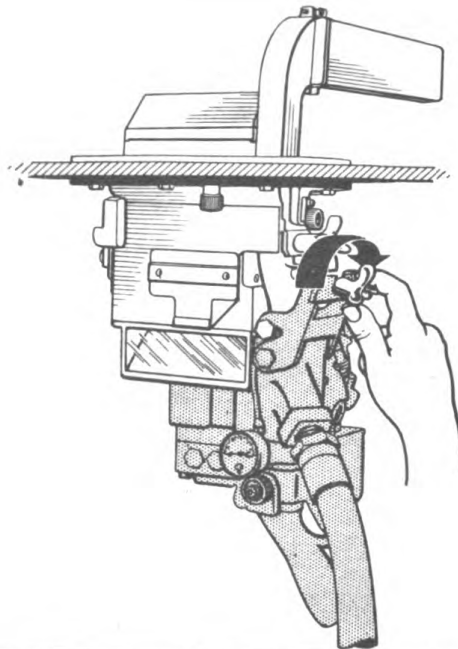

Fig. 45.
d. Gun control group. Connect gun control group to barrel assembly by procedure given in figure 45.
e. Gun hose. (1) To install hose in gun, screw hose into discharge